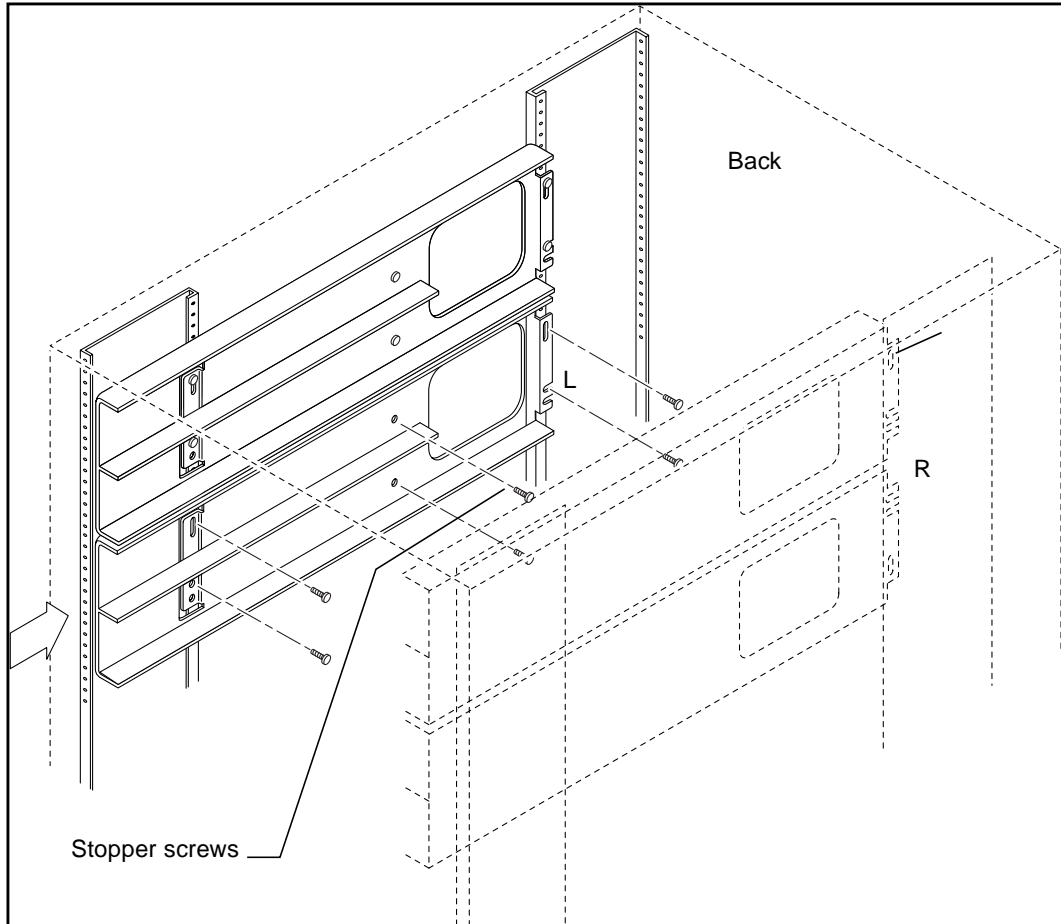

FIGURE 3-2 Installing Mounting Rails—Four-Switch Configuration
1. **Loosely start two stopper screws into each rail while they remain out of the cabinet (see FIGURE 3-2).**
2. **Working from the back of the cabinet, loosely start two screws into the cabinet rails. See FIGURE 3-2.**
2. Loosely start two stopper screws into each rail (see FIGURE 3-2).
3. Working from the back of the cabinet, loosely start two screws for the mounting rails into the cabinet (see FIGURE 3-2).